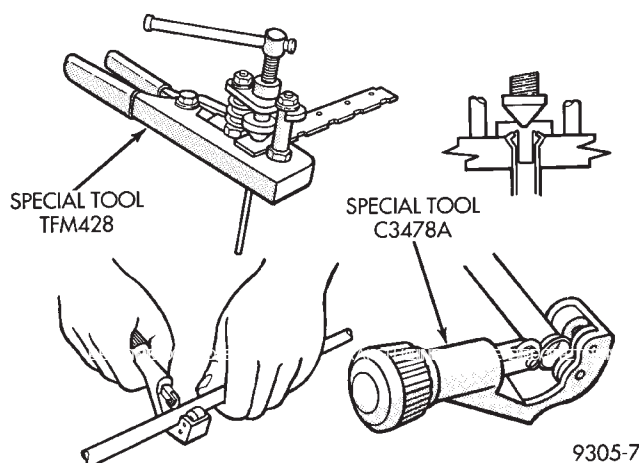
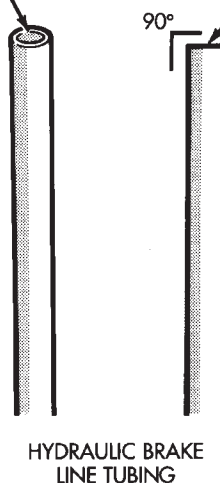
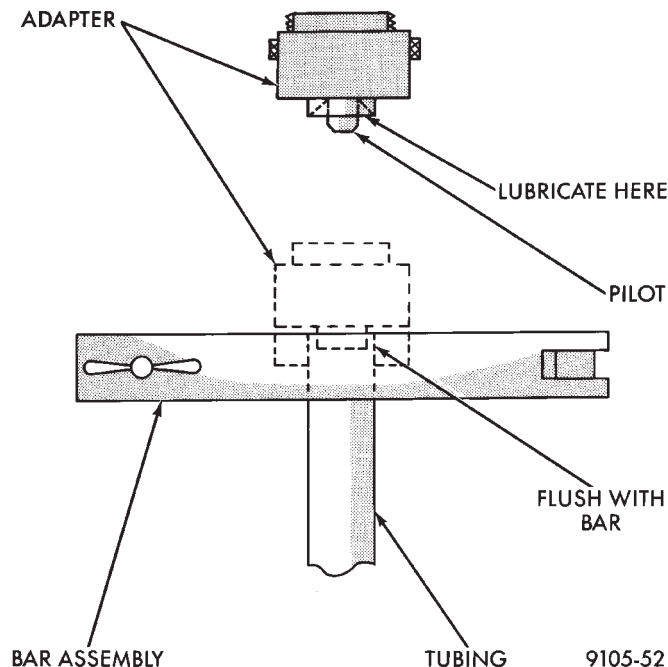

Fig. 36 Cutting and Flaring of Brake Line Tubing
Fig. 37 Tube End Properly Prepared For Flaring
Fig. 38 ISO Tubing Flare Tool
Using Tubing Cutter, Special Tool C-3478-A or equivalent, cut off damaged seat on tubing (Fig. 36). Ream out any burrs or rough edges showing on inside of tubing. This will make the ends of tubing square (Fig. 37) and ensure better seating of flared end tubing. **Be sure to put the tube nut on tubing before the tubing is flared.**
To create a (metric) ISO style tubing flare, Use Snap-On Flaring Tool TFM-428, (Fig. 36) or equivalent. See (Fig. 38) and proceed with the steps listed below. **Be sure to place the tubing nut on tube before proceeding to flare the tubing.**
(1) Carefully prepare the end of the tubing to be flared. Be sure the end of the tubing is square and all burrs on the inside of the tubing are removed (Fig. 37). **This preparation is essential to obtain the correct form of a (metric) ISO tubing flare.**
(2) Open the jaws of the Flaring Tool. Align the jaws of the flaring tool around the tubing. Close the jaws of the Flaring Tool around the tubing, but do not lock the tubing in place.
(3) Position tubing in jaws of the Flaring Tool so that it is flush with top surface of flaring tool bar assembly (Fig. 38).
(4) Install the correct size adaptor for the brake tubing being flared, on the feed screw of the yoke assembly. Center the yoke and adapter over the end of the tubing. Apply lubricant to the adapter area that contacts the brake tubing. Make sure the adapter pilot is fully inserted in the end of the brake tubing. Tighten screw on yoke assembly until the adaptor has seated squarely on the surface of the bar assembly (Fig. 38). This process will properly create a metric ISO tubing flare.